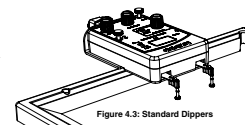

Figure 4.3: Standard Dippers
- Remove the straight barriers from the tank and replace the plane wave dipper in the ripple arms with two standard dippers (see Figure 4.3). Adjust the ripple generator so that the two standard dippers barely touch the surface of the water.